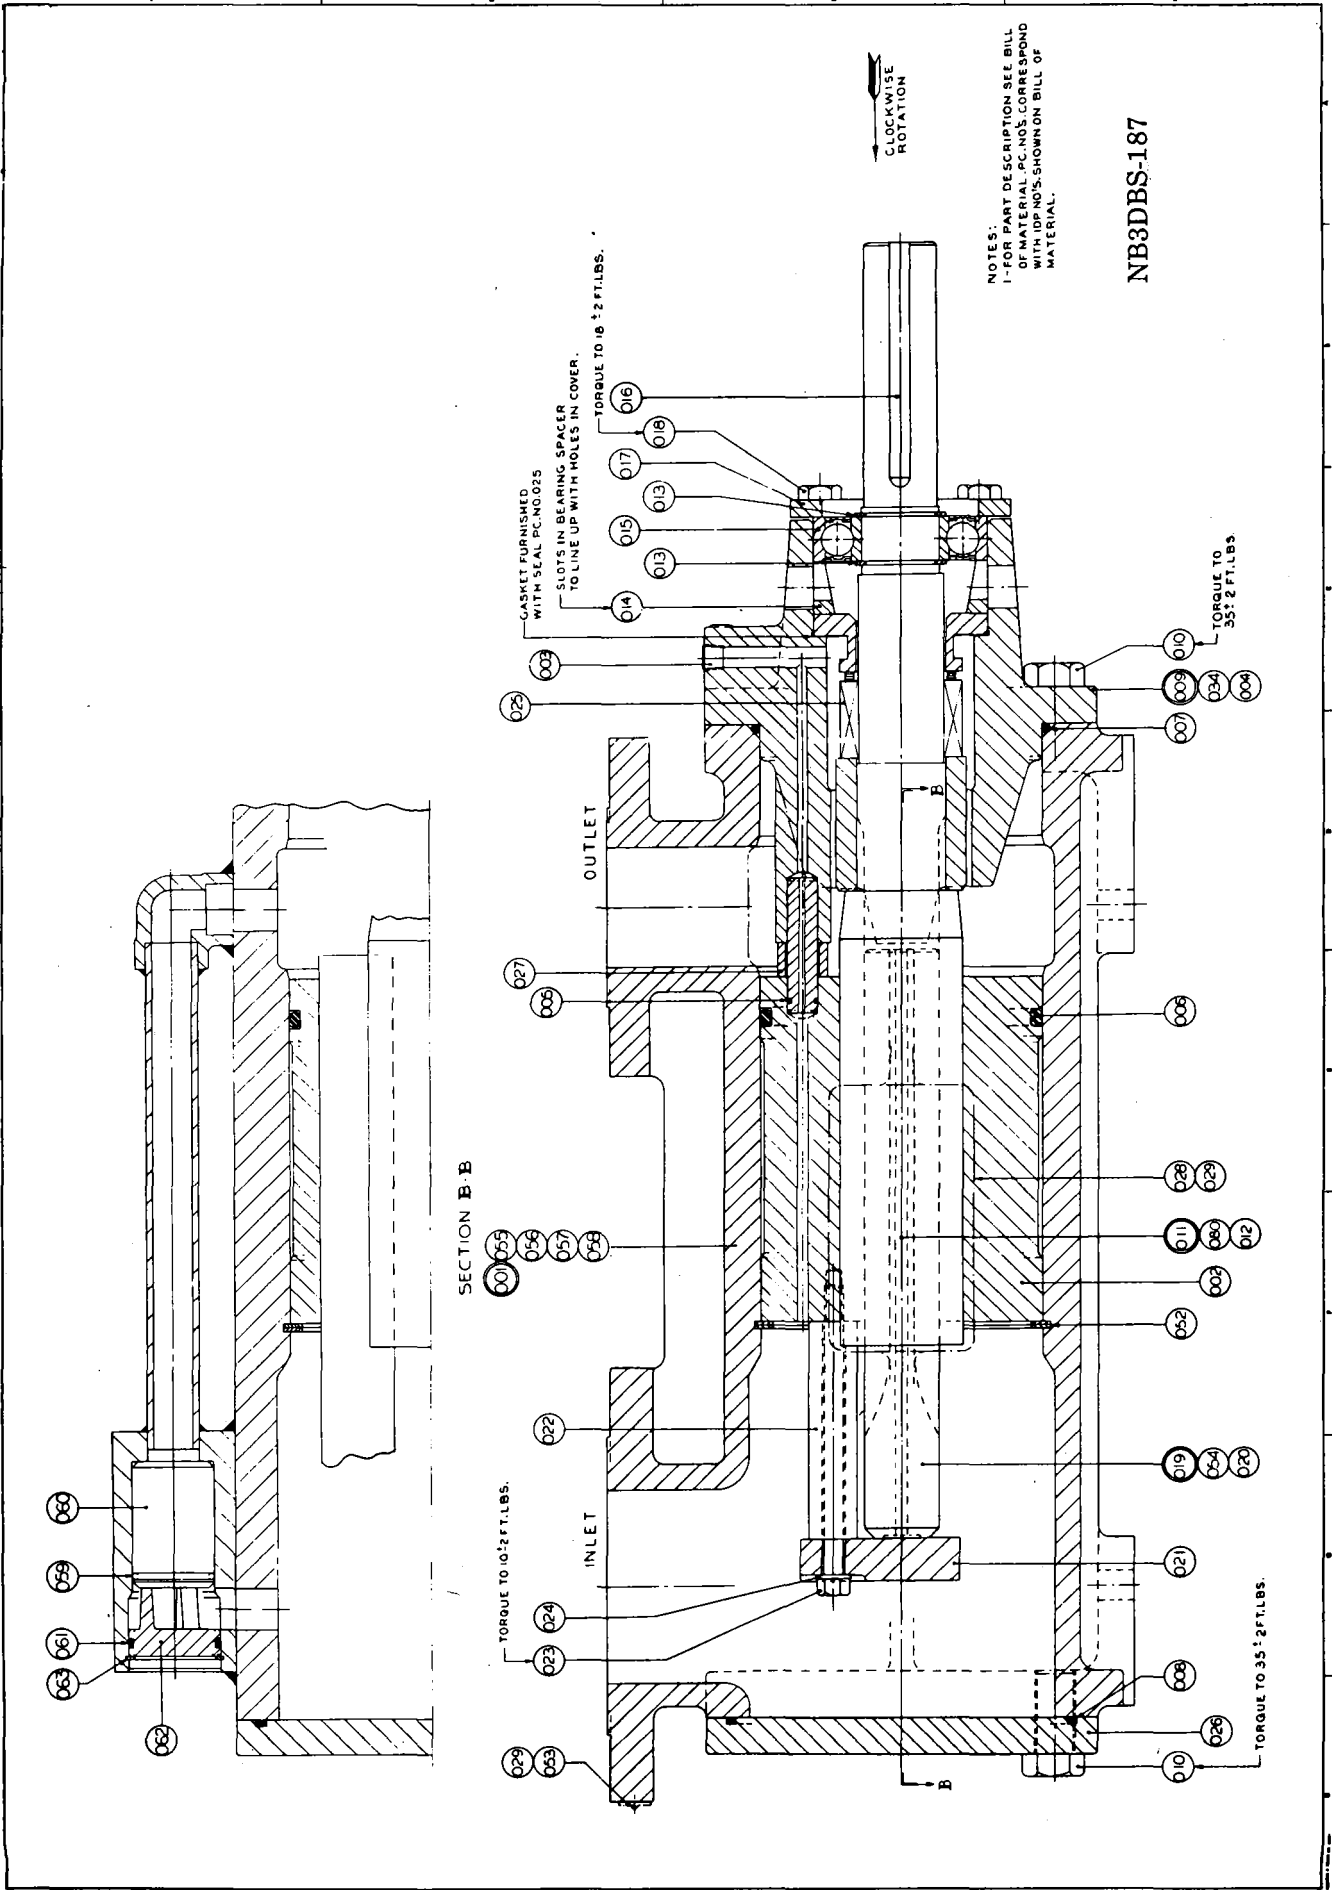

FIGURE 9. Pump Assembly Drawing
FIGURE 9. If removal of check valve (060) is required, disassemble unit by removing truarc ring (063) and slide O-ring (061) fitted spacer (062) from case (001). Remove O-ring (059) fitted chech valve (060).
FIGURE 9. Coat check valve (060) with oil and slide O-ring (061) in check valve (060) O-ring groove. Coat spacer (062) with oil and slide O-ring (061) in spacer (062) O-ring groove. Slide check valve (060) and spacer (062) in case (001). Install truarc ring (063) in case (001) ring groove.
- (8) Figure 9 only